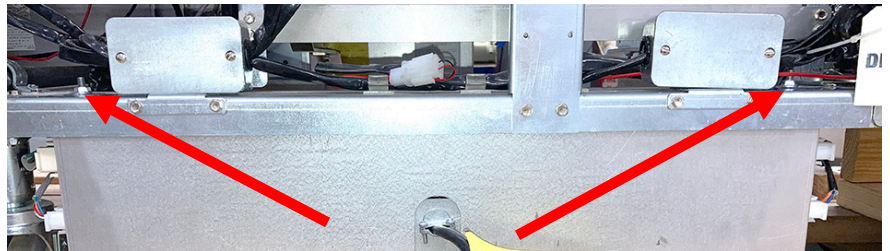

Figure 1
3. Locate the two (2) 7/16" nuts attaching the transformer box to the frame (see Figure 1).